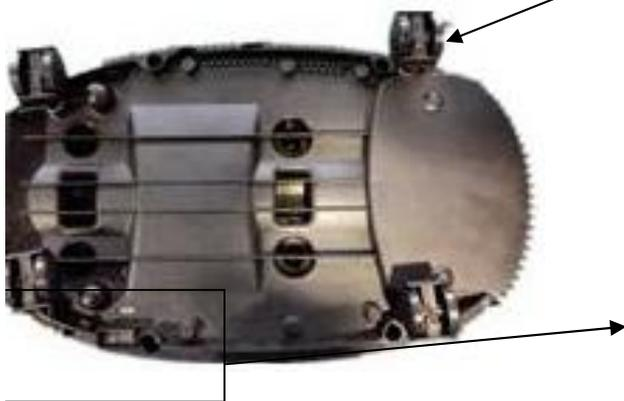

Figure 24
- Ø Using the straight screwdriver inserting into the gap between the castors and outside case, then disassemble the castors. (Figure 24)